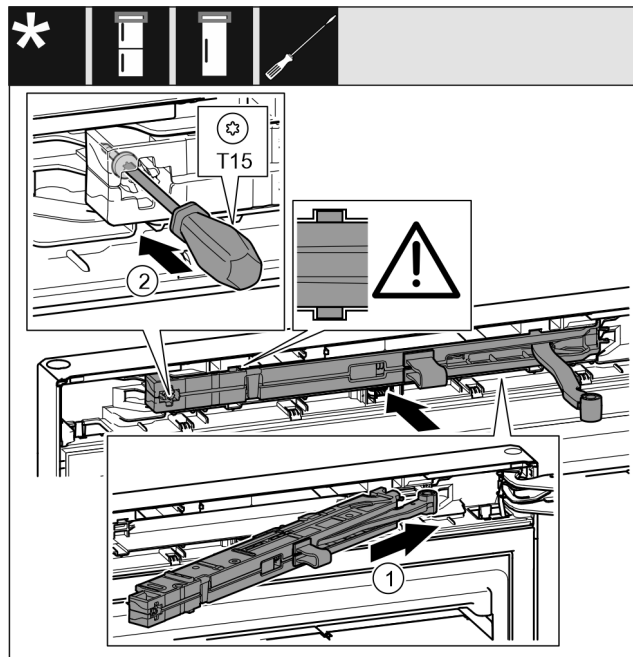

Fig. 29
- ▶ On the swap bearing block side, slide the closing damper unit Fig. 29 (1) into the recess at an angle up to the stop.
- ▶ Use a screwdriver to tighten the screw Fig. 29 (2).